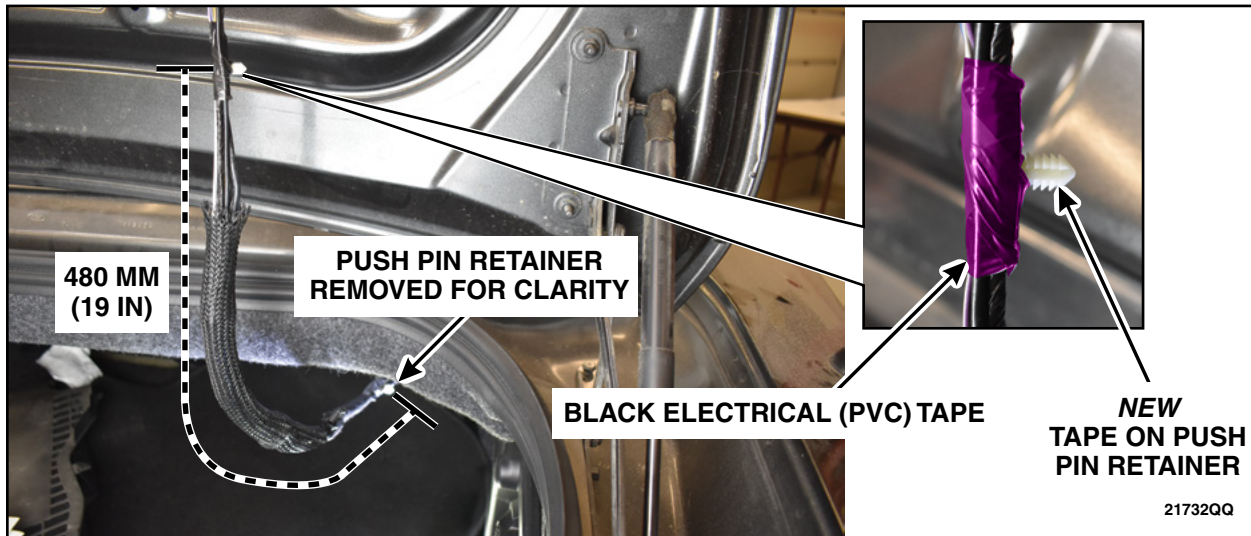

FIGURE 50
69. Measure 480 mm (19 in) from the wiring harness take out tape on push pin retainer and install a new tape on push pin retainer using some KT173510 or equivalent black electrical (PVC) tape. See Figure 50.